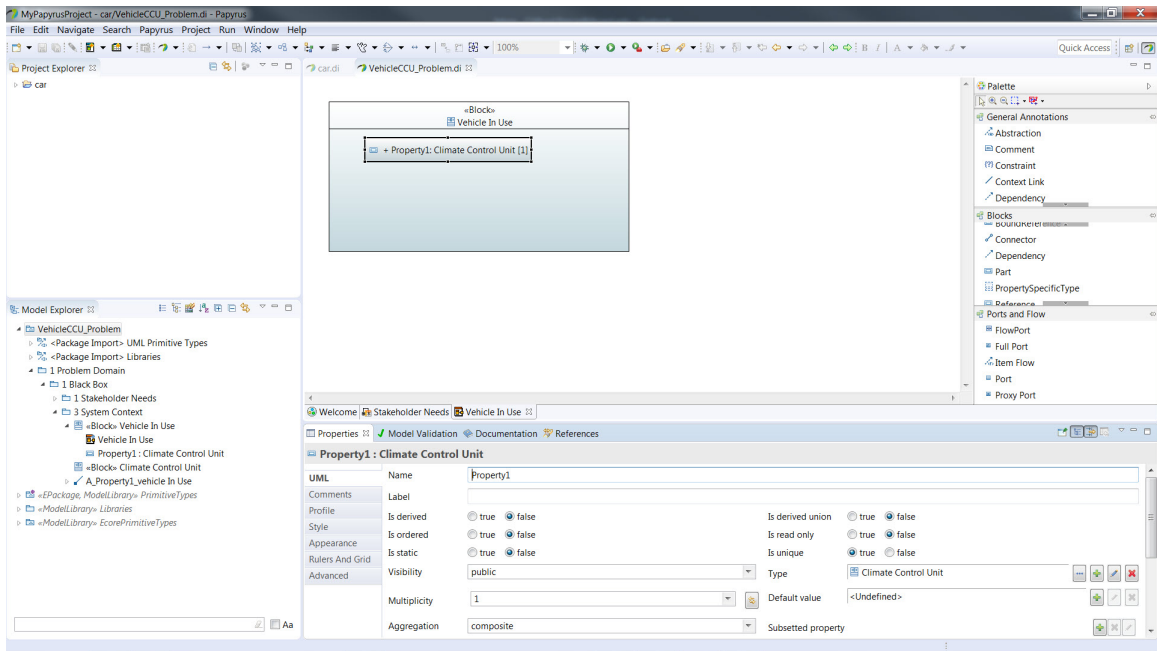

Figure 22: Part Type Initialization Window
5. In the *Type Initialization* window ensure that the *Type creation mode* radio button is selected to create a new type. In the *Select new type name box* type *Climate Control Unit* and press *Enter* twice. Your model should look like figure 22.